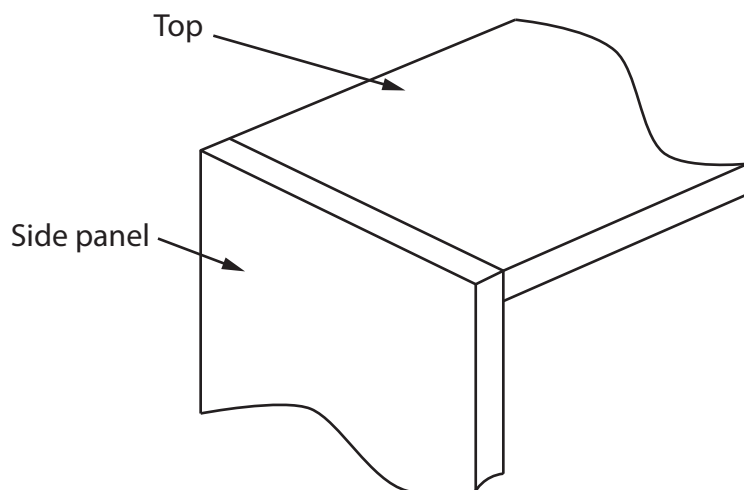

Figure 11
Figure 11 shows the top of the desk tidy joined to the side panel.
- (d) Give **two** different semi-permanent methods of assembly that could be used to join the MDF top and side panel as shown in Figure 11.